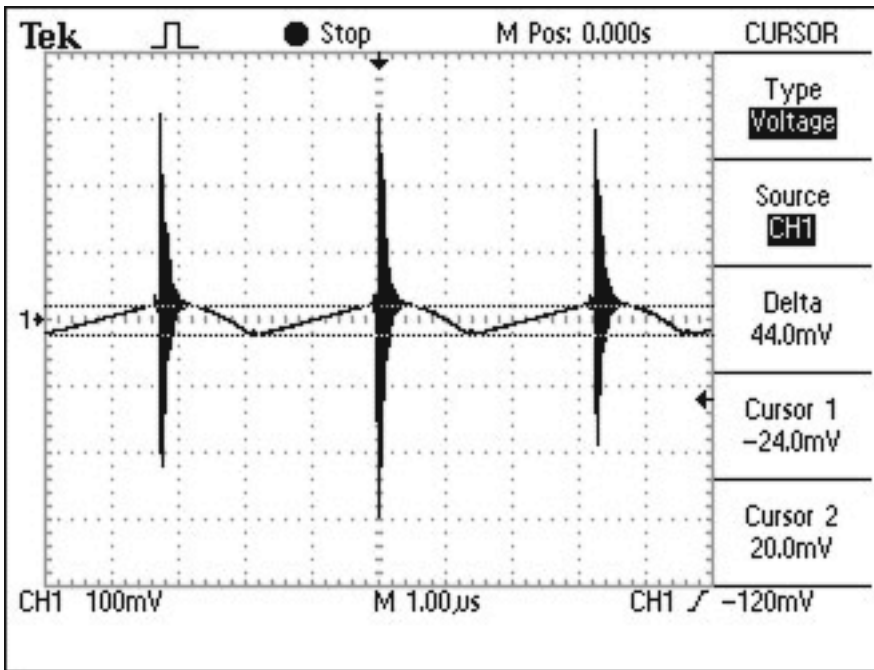

Figure 9. Shows a typical waveform of noise due to finite input capacitance.
**Figure 9** shows a typical waveform of the noise due to finite input capacitance. This plot was taken with high quality ceramic capacitors that minimize any effect due to capacitor ESR. The large, high-frequency noise is unrelated to the finite input capacitance and is caused by the capacitors ESL. This is further discussed under the section labeled "Input Capacitors ESL".